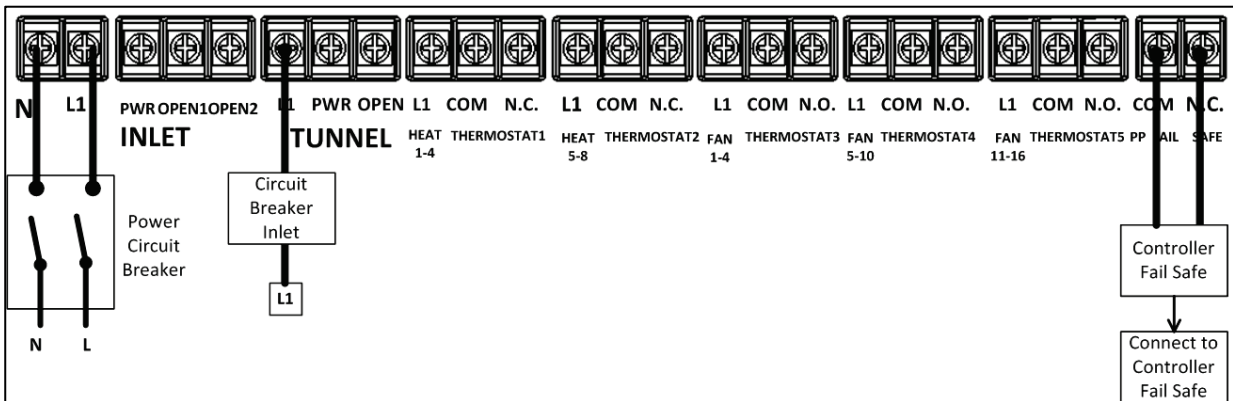

Figure 4: Relay Connections to Controller - Section 3
4. Figure 4 illustrates which potentiometer controls the delay for the different stages.
1. Connect the equipment according to the tags written on the PCB. Figure 4 displays some of the connections.
Figure 4 presents a view of the card divided into the following main sub-units: